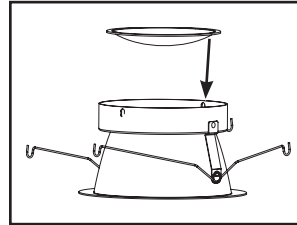

Figure 29.
1. Insert lens into reflector with concave part facing down (Figure 29.).